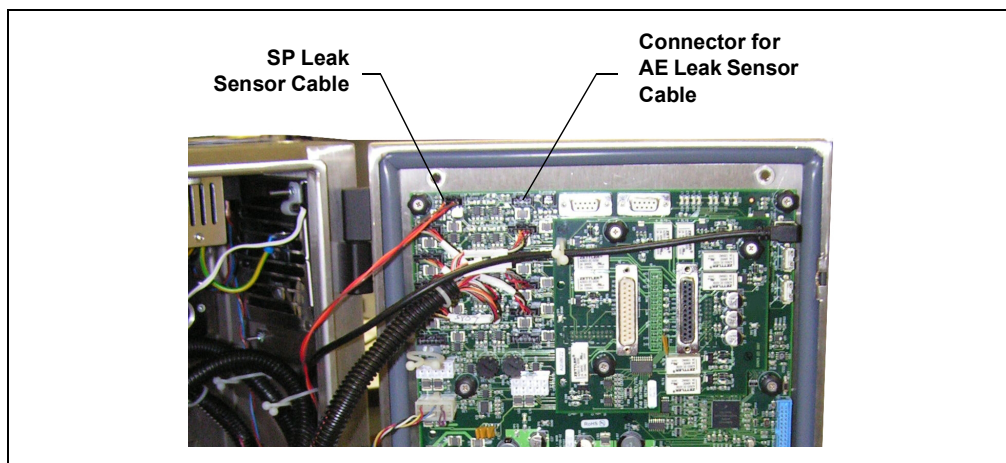

Figure 9-1. Main SP Electronics Board (Vertical Enclosure Shown)
- The cables for the leak sensors plug into the connectors on the top edge of the board on the left side (see Figure 9-1).